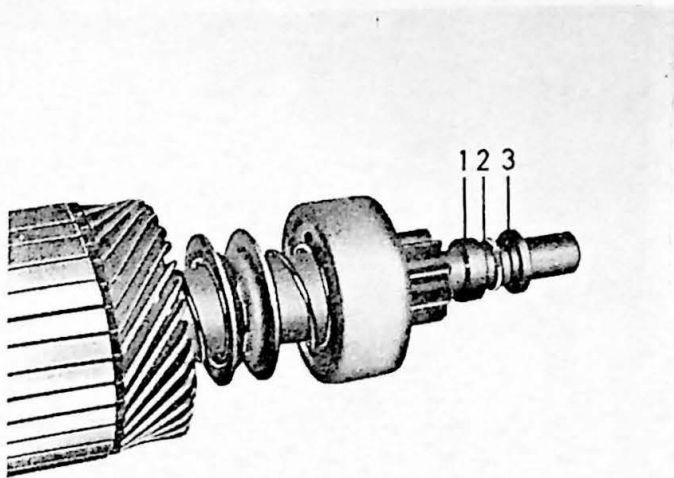

Fig. 10-15. Pinion, locking ring and nut
6. Remove the stop washers on the rotor shaft. The thin washers (axial adjusting washers) and washer (3, Fig. 10-15) are removed by being pulled straight off the shaft. The thick washer (1, Fig. 10-15) should first be knocked in  $3/16$ — $5/16$ " (5—8 mm) on the shaft so that the lock ring (2, Fig. 10-15) can be removed, after which the washer is pulled off the shaft.